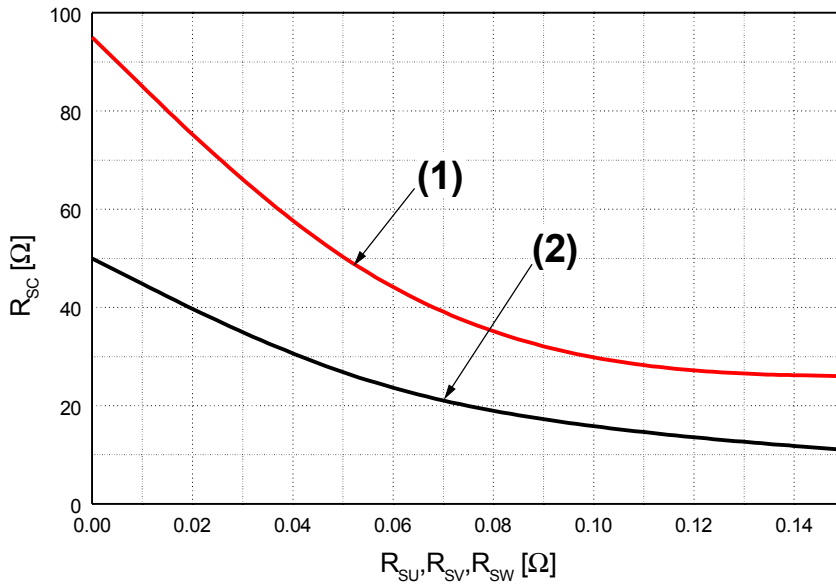

Fig. 7. R_{SC} Variation by change of Shunt Resistors (R_{SU} , R_{SV} , R_{SW}) for Short-Circuit Protection
- Short-circuit current protection is functioning only at the low-sides. It would be recommended that the value of the external sensing resistor (R_{SC}) should be selected around 50 Ω in order to make the SC trip-level of about 15A at the shunt resistors (R_{SU}, R_{SV}, R_{SW}) of 0Ω. For the detailed information about the relationship between the external sensing resistor (R_{SC}) and the shunt resistors (R_{SU}, R_{SV}, R_{SW}), please see Fig. 7.